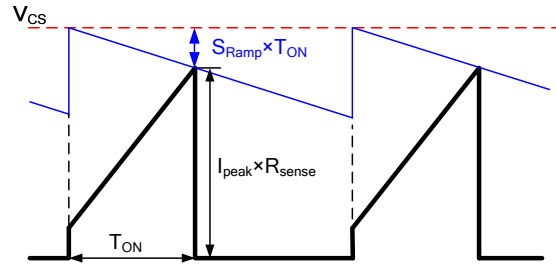

Figure 9: Slope Compensation Waveform
Figure 9 shows the slope compensation waveform. When the sum of the sense resistor voltage and the slope compensation voltage reaches the peak current limit (V_{CS}), the HF900 turns off the internal MOSFET. The maximum peak current limit is 0.97V (V_{CS} , typical value), and the slope compensation slew rate is 40mV/μs. Considering the margin, use $0.95 \times V_{CS}$ as the peak current limit at full load. The voltage on the sense resistor is given using Equation (13):